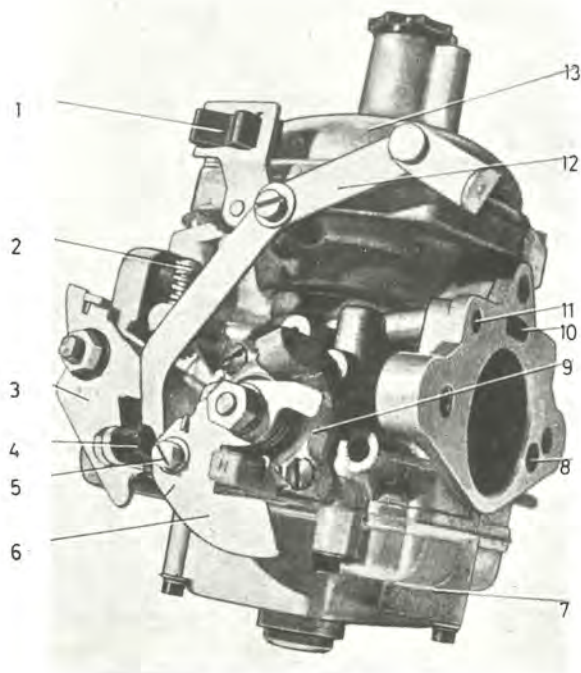
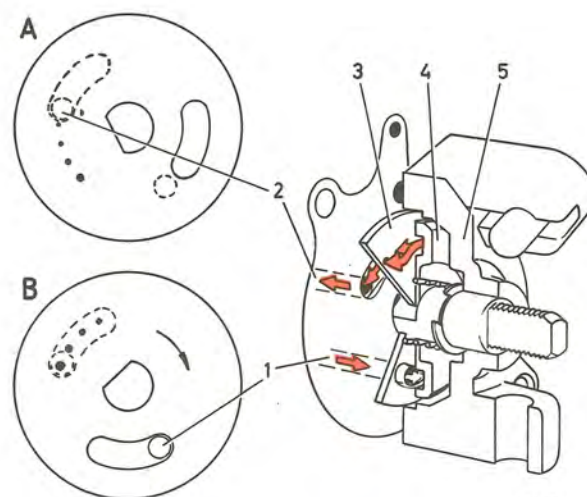

Fig. 2-59. Carburettor, rear, from the left
Fig. 2-61. Cold start device
To facilitate starting during cold weather, the rear carburetor is fitted with a cold start device (Figs. 2-59 2-61 and 2-62).
The cold start device consists of a valve disc (3, Fig. 2-61) which is provided with four calibrated holes and an elongated opening as well as a disc (4) mounted on a spindle which is operated by the choke control. On the same spindle, outside the cover (5), there is a cam disc (6, Fig. 2-59) with connection for the choke control pull wire. When the cold start device is engaged, the valve disc turns and this links up the channel (1, Fig. 2-61) from the floatchamber via one or several of the calibrated holes to the channel behind the valve disc and then the opening to the channel (2), which terminates in the venturi between the vacuum plunger and choke flap. Through this link-up, the engine receives extra fuel (a richer mixture), to facilitate cold starting. At the same time, less air is supplied by means of the choke device. When the choke control is pushed in, the valve disc
turns and closes the inlet to the channel. At the same time as the cam disc is operated, the throttle flap opening is also influenced in such a way that turning the cam disc opens the throttle through the fast idle stop screw (4, Fig. 2-59) and the lever, before any of the calibrated holes open the connection to the fuel drilling. With this arrangement, the idling speed can if necessary be raised by the driver of the vehicle during the warming-up period of the engine.